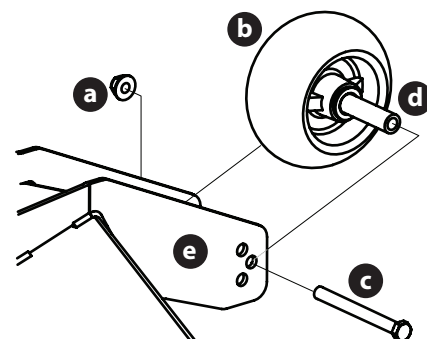

Figure 32
2. Remove the lock nut (a) securing one of the front gauge wheels (b) to the deck. Remove the front gauge wheel (b), hex screw (c) and spacer (d) (Figure 32).
3. Insert the hex screw (c) into one of three index holes in the front gauge wheel bracket (e) that will give the front gauge wheel (b) a 1/4-1/2" (6.4 to 12.7 mm) clearance with the ground (Figure 32 on page 24).
4. Note the index hole of the just adjusted front gauge wheel (b) and adjust the other front gauge wheel (b) into the respective index hole of the other front gauge wheel bracket (e) (Figure 32 on page 24).